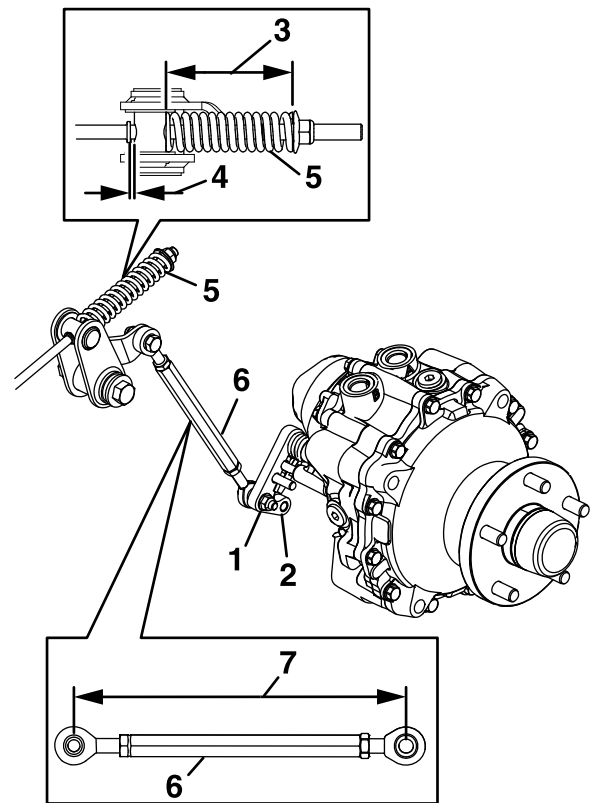

Figure 54
7. Measure the length of the link assembly (Figure 54).
8. Measure the length of the spring (Figure 54).